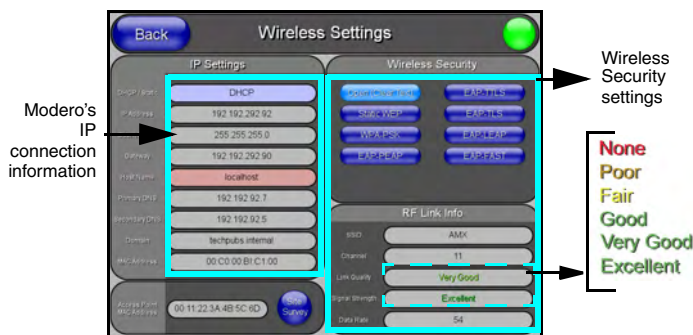

FIG. 11 Wireless Settings page
2. Power-up the panel and navigate to **Protected Setup > Wireless Settings** to open the Wireless Settings page (FIG. 11).